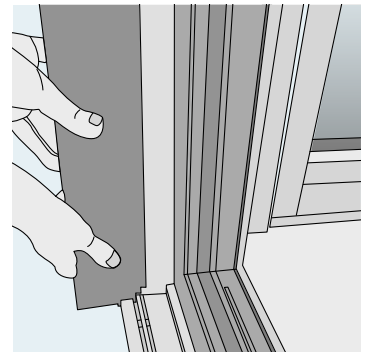

Figure 9
b. Then push the aluminium part in at the threshold (figure 9).